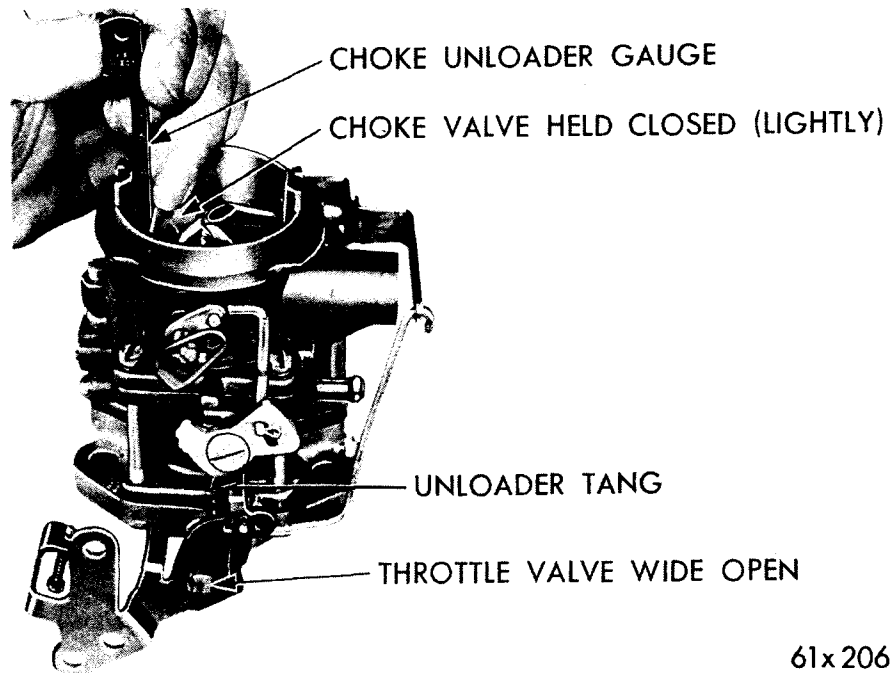

Fig. 61—Checking Choke Unloader Setting
(1) Hold the throttle valve in the wide open position, insert Tool T109-28 or a 3/16" drill between the upper edge of the choke valve and the inner wall of the air horn, as shown in Figure 61.